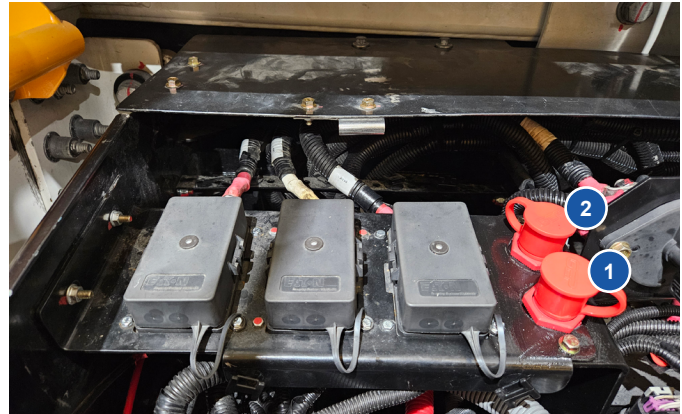

Figure 32 – Remote positive battery posts
If equipped, use these posts (**Figure 32, no. 1 and 2**) to recharge the low-voltage circuit batteries.
- The nearest red post is the 24 V positive post (**Figure 32, no. 1**).
- The further back red post is the 12 V positive post (**Figure 32, no. 2**).